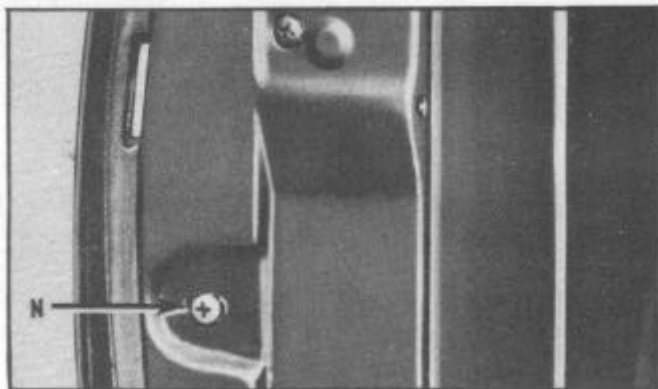

FIGURE 143
1. To bring the rear of the door glass into alignment with the rear quarter window, the glass run channel may be adjusted in or out by moving screw (N) Figure 143, attaching the channel to the lock edge of door.